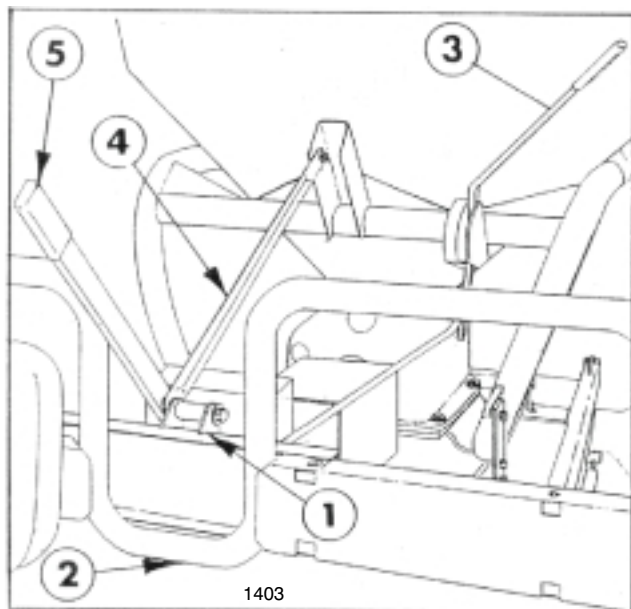

FIG. 7
1. Install the Lever Bracket Assembly on the Workman's Seat Frame as shown in FIG. 7. Secure with four 5/16" x 3/4" carriage bolts and nuts.
4. Position the Flow Regulator and Flow Control Handles in their **CLOSE** position as shown in FIG. 7.